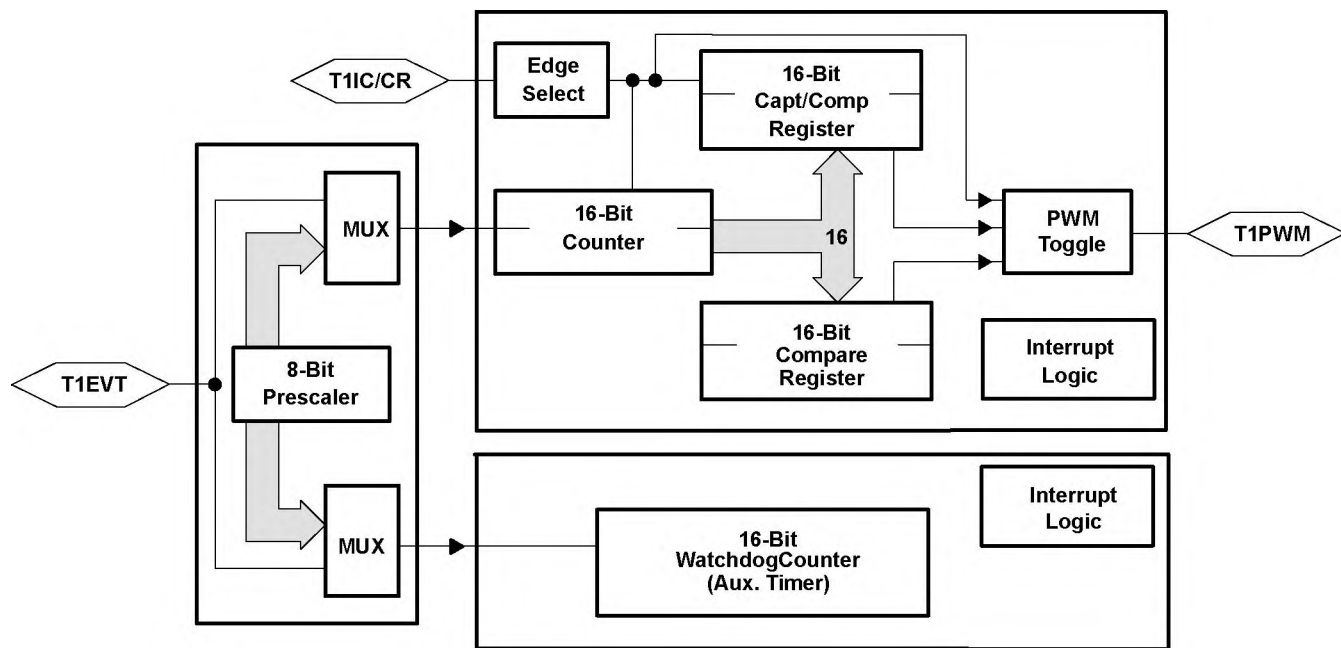

Figure 6. Timer 1 Block Diagram
The programmable Timer 1 (T1) module of the TMS370Cx1x provides the designer with the enhanced timer resources required to perform real-time system control. The T1 module contains the general-purpose timer and the watchdog (WD) timer. The two independent 16-bit timers, T1 and WD, allow program selection of input clock sources (real-time, external event, or pulse accumulate) with multiple 16-bit registers (input capture and compare) for special timer function control. The Timer 1 module includes three external device pins that can be used for multiple counter functions (operation-mode dependent), or used as general-purpose I/O pins. The T1 module block diagram is shown in Figure 6.